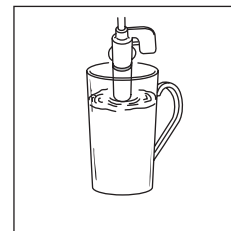
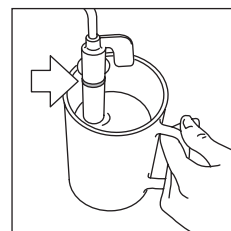
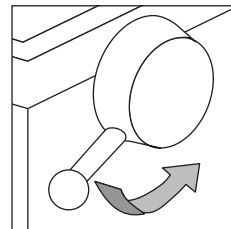

fig. 19
fig. 20
fig. 21
5. Dip the cappuccino maker into the milk (fig. 19), taking care not to immerse the raised line on the cappuccino maker (indicated by the arrow in fig. 20). Turn the steam knob at least a half turn anti-clockwise (fig. 21). Steam is given off by the cappuccino maker, giving the milk a creamy frothy appearance. To obtain a creamier froth, dip the cappuccino maker into the milk and rotate the container with slow movements from the bottom upwards.
1. Discharge a little steam for a few seconds by rotating the steam knob (fig. 21). This empties any milk left inside the steam tube.